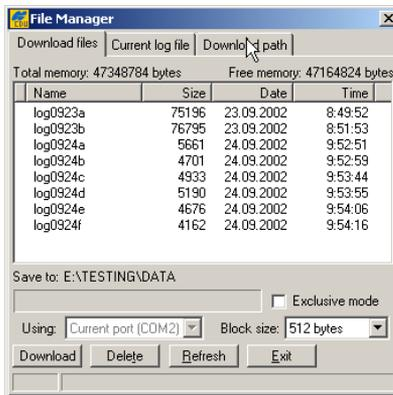

Figure 4-2. Find Files to Download
3. Click **File ▶ File Manager**, and then click the **Download path** tab on the **File Manager** dialog box (Figure 4-2).